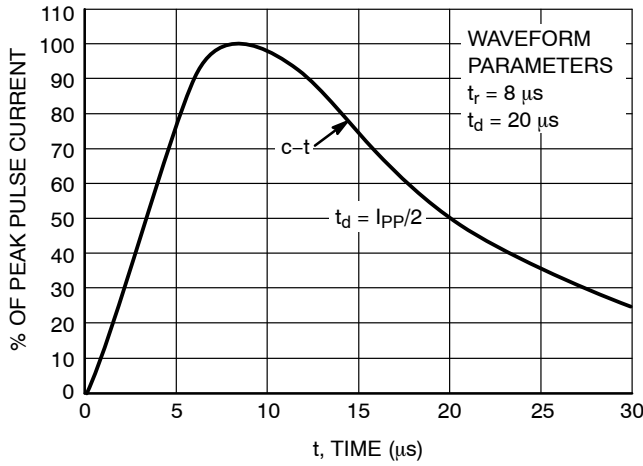

Figure 1. Pulse Waveform, 8/20 μs
1. Non-repetitive current pulse per Figure 1.
- Pulse waveform per Figure 1.